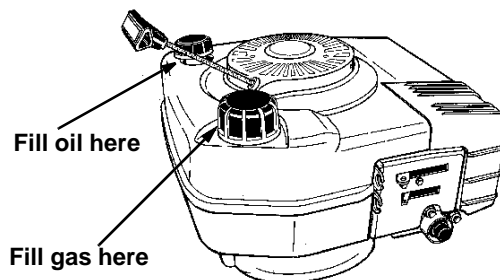

FIGURE 8
- Fill oil sump and check the oil level following steps below. See Figure 8.
- Clean area around fuel cap. Remove cap. See Figure 8. Use a funnel to prevent spillage.